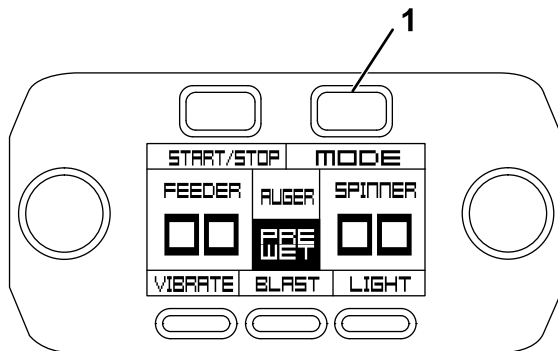

Figure 49
- To set the flow speed, press the Mode button on the controller (Figure 49).